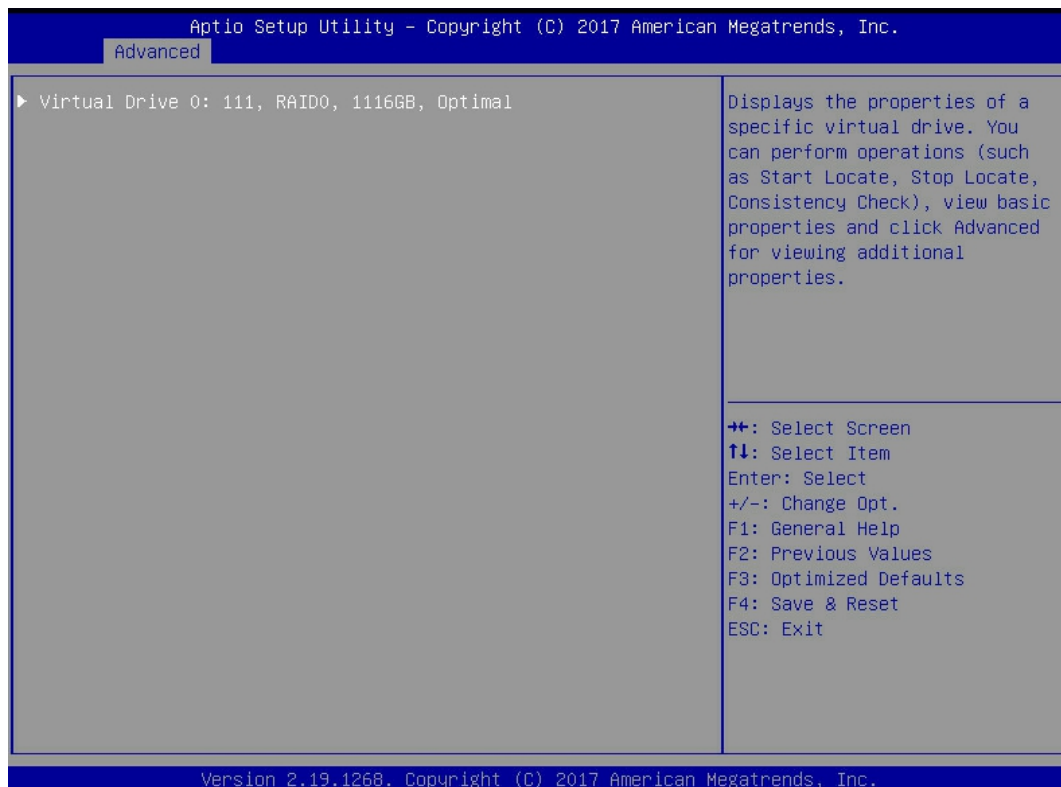

Figure 6-92
- b) Enter the interface shown in figure 6-92, select the logical disk to be rebuilt, and press enter.
✧ Figure 6-92 virtual drive management interface